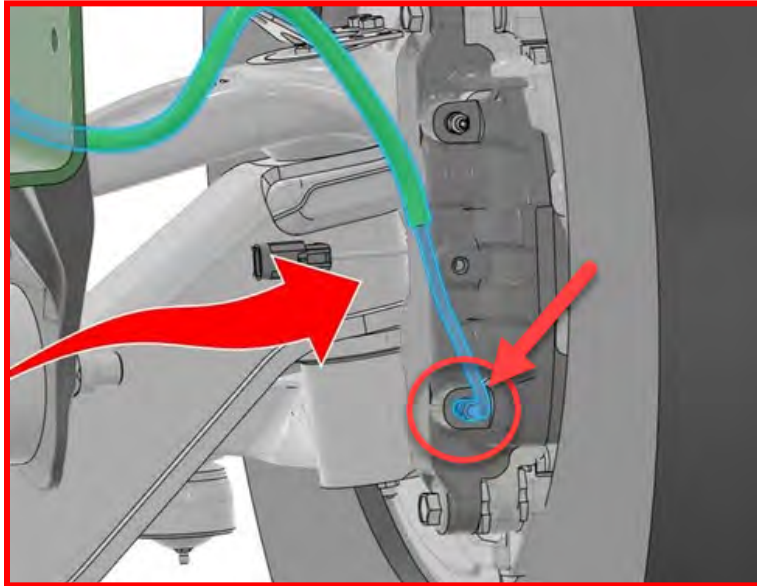

Figure 16 - Rubber Brake Hose-to-Caliper Fitting
1. Remove the front rubber brake hose fitting from the caliper (Figure 16). Use a rubber cap, or equivalent, to reduce brake fluid leakage during the repair.